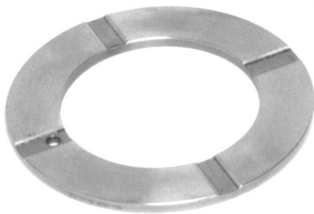

Fig.31: Old version of standard thrust bearing, aluminium.
- 1.b Aluminium (old version), refer Figure 31, Page 22